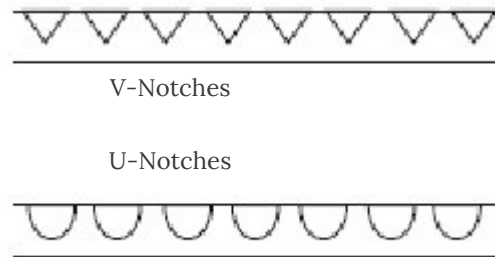

Fig. 2
- 5) Using the sharp utility knife, notch the tri-rod at predetermined intervals. The tri-rod can be notched into a “V” or “U” shape (see Fig. 2). The size of the notch should be the same size as the arrow shaft. Too much room can cause movement while too little room can cause abrasion.